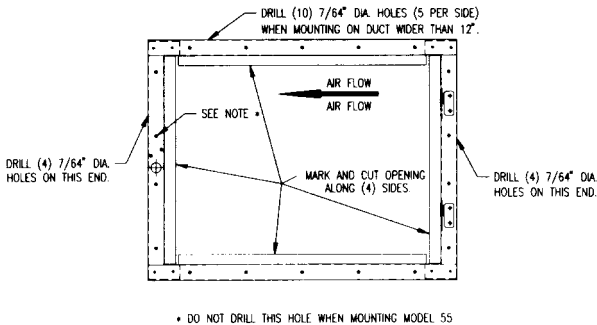

FIGURE 9
1. At the selected location, hold the mounting frame on the bottom horizontal side of the duct with the long sides of the frame parallel to the length of the duct, and the end with the hinges toward the heating unit so that the air flow is in the direction indicated in Figure 9.
6. Now mount the mounting frame on the duct with the screws provided, in the direction as shown in Figures 9, 10, 11 while making certain of the correct direction of air flow.